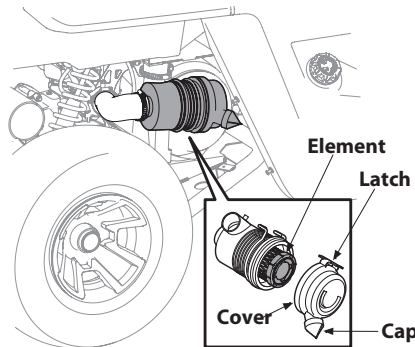

Figure 4-1
1. Pull up on latch and turn counter-clockwise to release air cleaner cover. See Figure 4-1.
IMPORTANT: When reattaching cover, make certain that the cap is pointing downward. See Figure 4-1 inset.